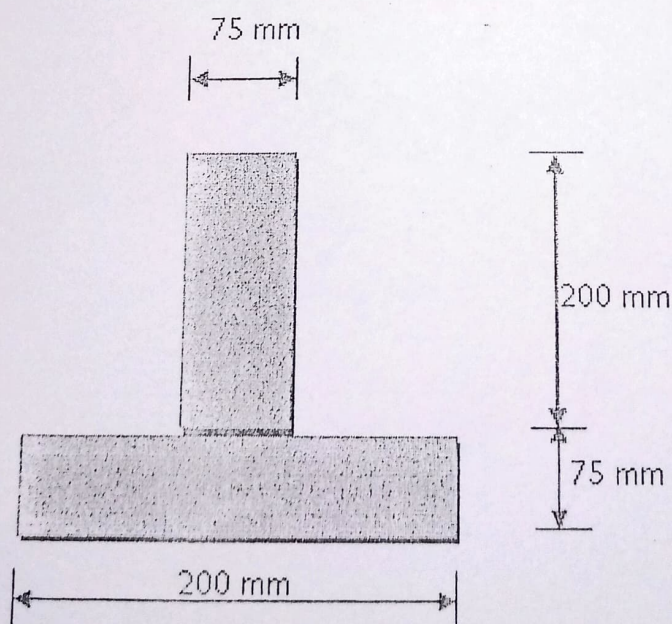

Figure 1
- A 2.8 m column with the cross section shown in Figure 1 is constructed from two pieces of timber. The timbers are nailed together so that they act as a unit. Determine: